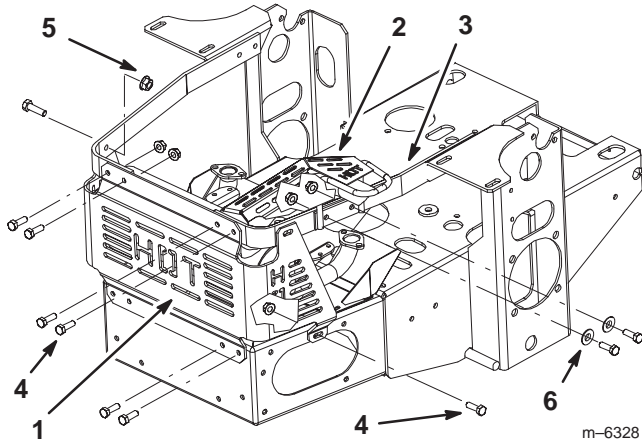

Figure 2
1. Remove the rear heat shield from the back of the machine (Fig. 2).
2. Remove the muffler heat shield from the right engine strap and above the muffler tailpipe (Fig. 2). Save one bolt, flat washer and nut.